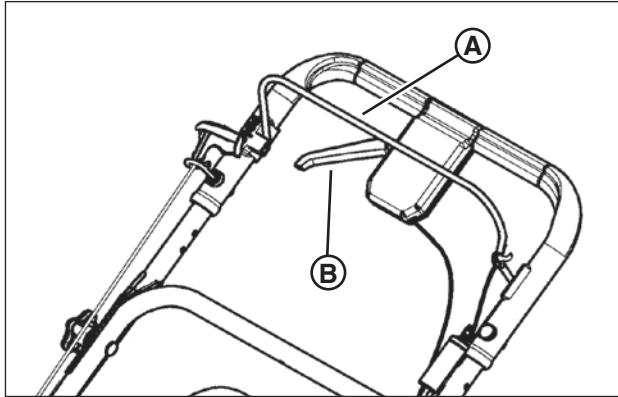

Figure 4: Mower controls
2. Check the blade control **(A, Figure 4)** and drive control **(B)** to insure they work freely.